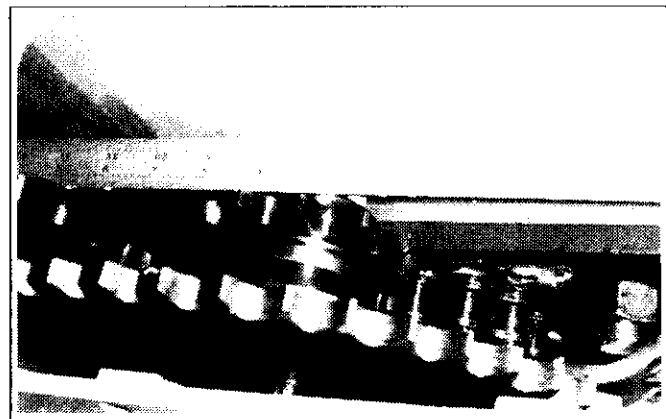

Figure 6-19
3. Check alignment by using a 36 inch by 1 inch straight edge, lining up the axle drive sprockets and the small sprocket on the cluster sprocket. Re-shim if necessary. (See figure 6-19)